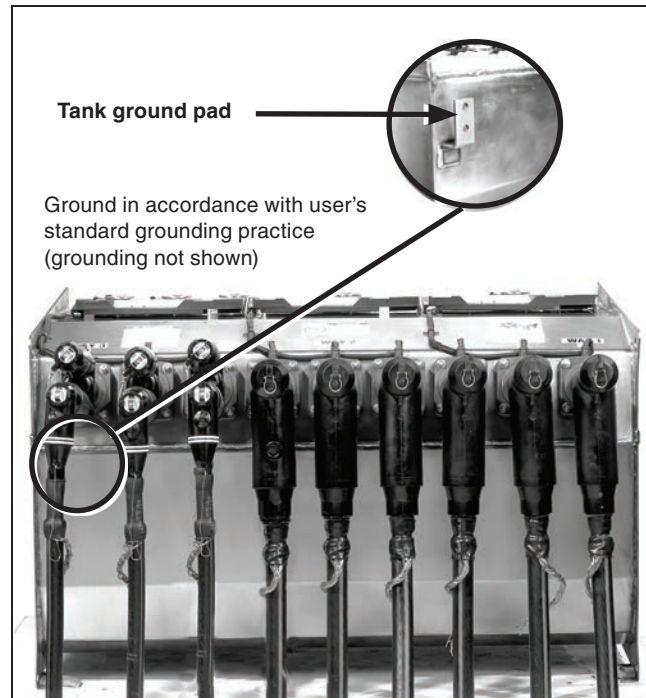

Figure 19. Connect the switchgear ground pad to a suitable earth ground (grounding not shown).
- STEP 14.** Connect the ground pad of the tank and the ground pad inside the enclosure to the system ground facility in accordance with the user's standard grounding practice. See Figures 19 and 20.